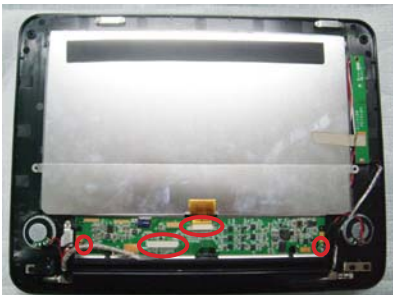

Fig.4
4. Broken connections to remove IF board as Fig.4.